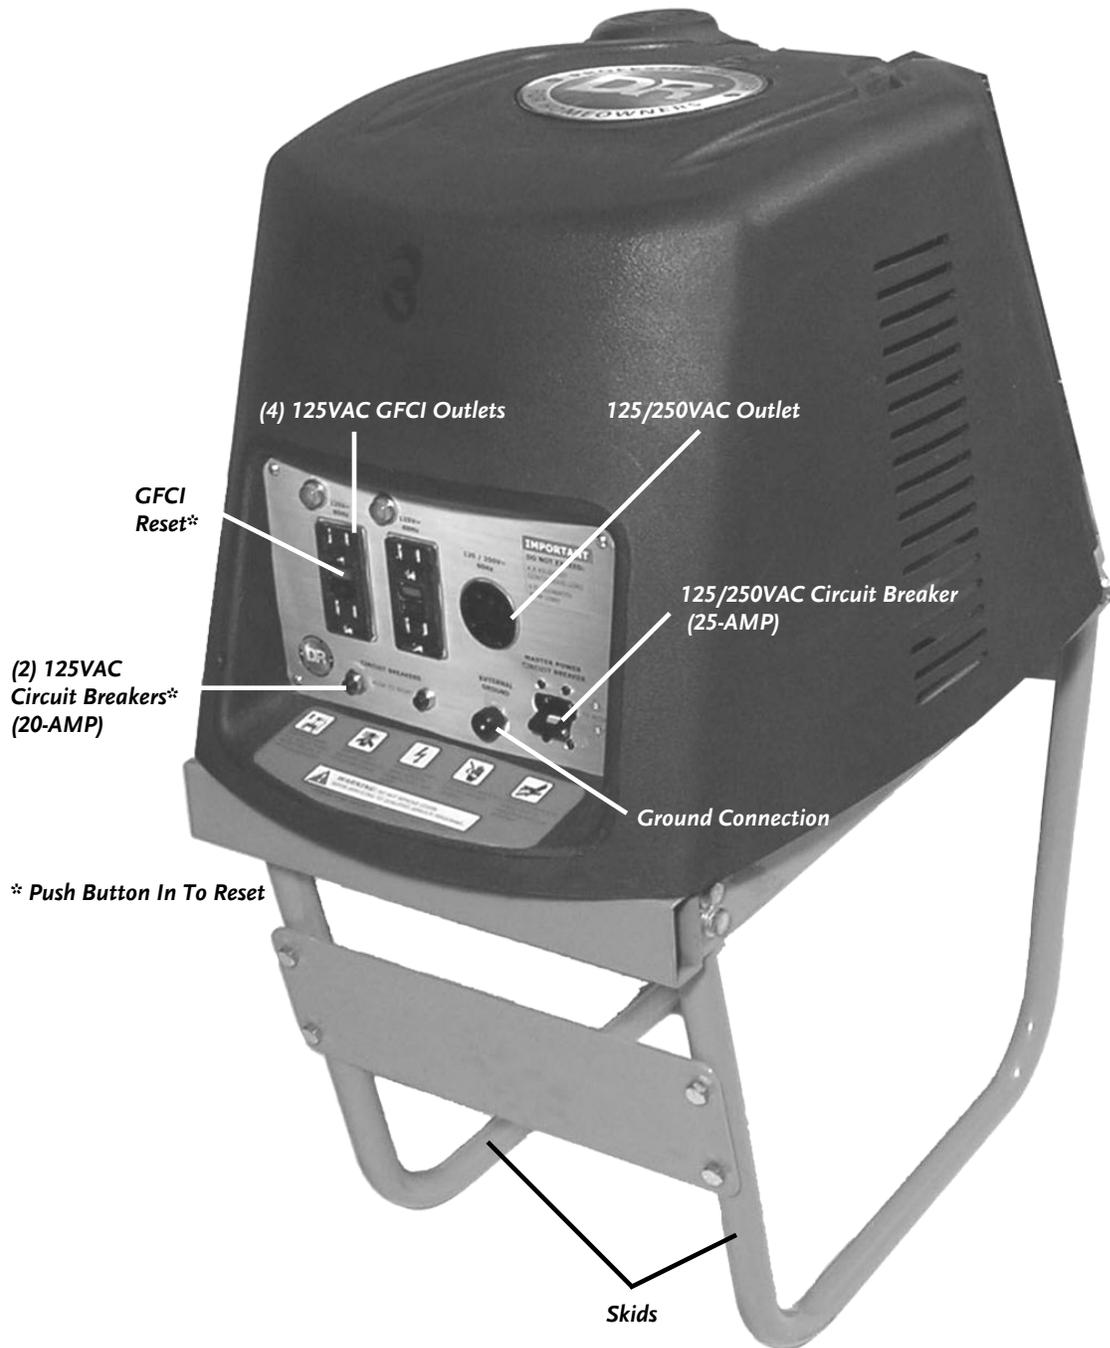
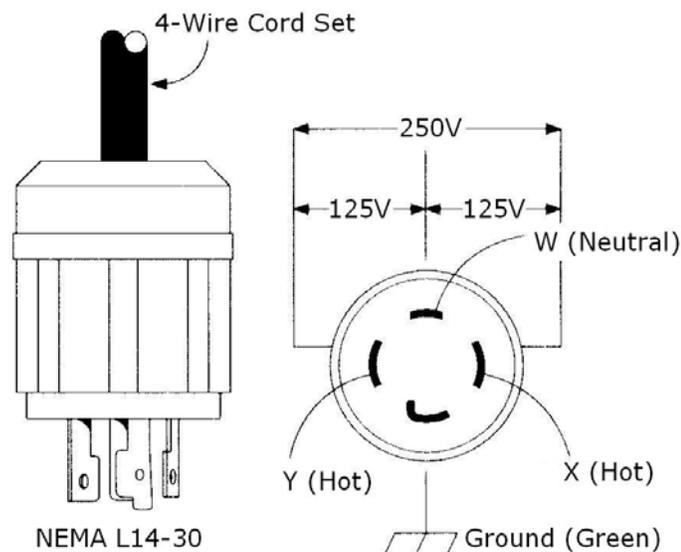

Figure 30
Figure 31
- The DR GENERATOR ATTACHMENT is equipped with two (2) 125VAC, 20 AMP, Duplex, Ground Fault Circuit Interrupter (GFCI) Receptacles. Use each receptacle to operate 125VAC, single-phase, 60 Hz electrical loads requiring up to 2,400 Watts (2.4 KW). Each duplex outlet is protected against overload with a push-to-reset circuit breaker (**Figure 30**).
- The DR GENERATOR ATTACHMENT is also equipped with a 125/250VAC, 25 AMP, Locking Receptacle. Use this receptacle to operate 125/250VAC, single-phase, 60 Hz electrical loads requiring up to 6,000 Watts (6.0 KW) at 25 AMPS for 125 or 250VAC. Use only a NEMA L14-30 plug (**Figure 31**) with a 4-wire cord set rated for 250VAC loads at 30 AMPS or greater (**Figure 31**). The same 4-wire cord can also be used to operate a 125VAC appliance having this type of connector. This outlet is also protected against overload with a circuit breaker (**Figure 30**).
Properly grounding the Generator helps prevent electrical shock if a ground fault condition exists in the Generator or in connected appliances. Proper grounding also helps dissipate static electricity, which often builds up in ungrounded devices. A Ground Fault Circuit Interrupter (GFCI) is provided in the 125VAC receptacles on the Generator front panel (**Figure 30**).
- MOST MOTORIZED APPLIANCES REQUIRE MORE THAN THEIR RATED WATTAGE FOR START-UP. DO NOT EXCEED THE CURRENT LIMIT SPECIFIED FOR ANY GENERATOR OUTPUT (*FIGURE 30*).
- A CIRCUIT BREAKER ON THE FRONT PANEL OF THE DR GENERATOR ATTACHMENT (*FIGURE 30*) WILL AUTOMATICALLY TRIP (BUTTON POPS OUT) IF THAT INDIVIDUAL CIRCUIT IS OVERLOADED OR IF A DEFECTIVE APPLIANCE IS PLUGGED INTO THE CIRCUIT. IF A CIRCUIT BREAKER TRIPS AUTOMATICALLY, CHECK THAT THE APPLIANCE CONNECTED DOES NOT EXCEED THE RATED LOAD CAPACITY FOR THAT CIRCUIT AND/OR THE APPLIANCE IS WORKING PROPERLY BEFORE RESETTING THE CIRCUIT BREAKER (*FIGURE 30*).